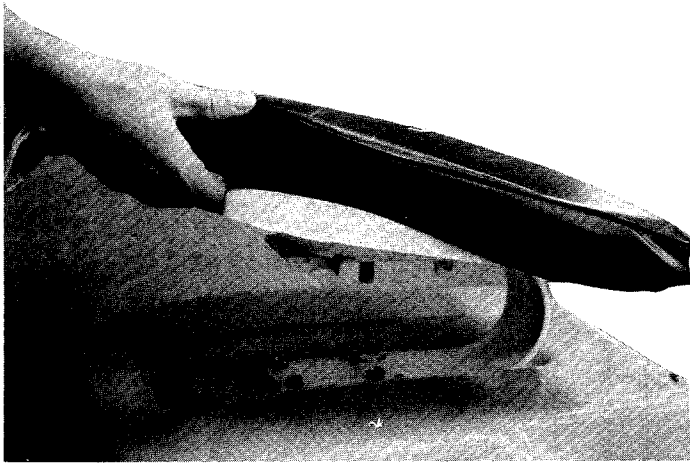

FIGURE 3. SEAT COVER ASSEMBLY
- Step 2. Place the seat cover over the seat and tie the string on the back side. See figure 3.